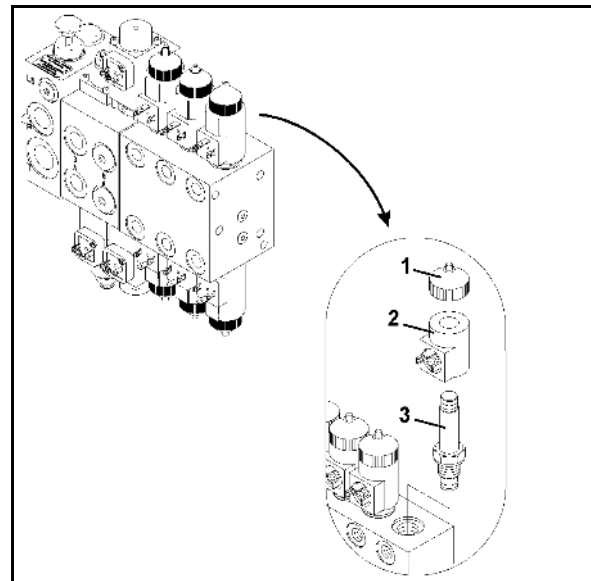

Fig. 130
1. Unscrew the magnetic cap (Fig. 130/1)
2. Remove the solenoid (Fig. 130/2)
3. Unscrew the valve rod (Fig. 130/3) with valve seats and clean with compressed air or hydraulic fluid.